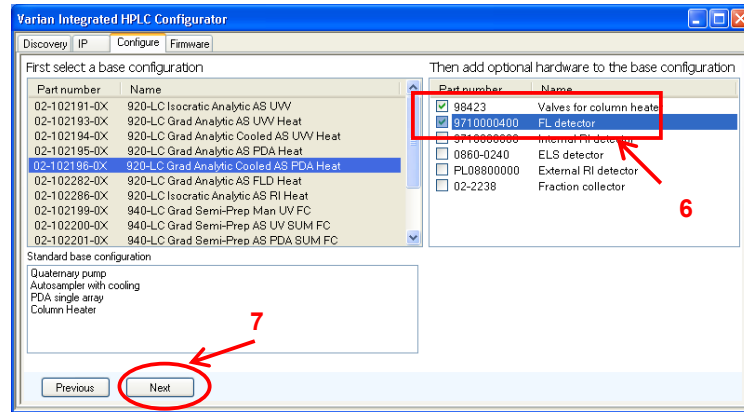

Figure 22: Module selection page in the configure tab
- Select the FL detector option (6) and press the Next (7) button (Figure 22).